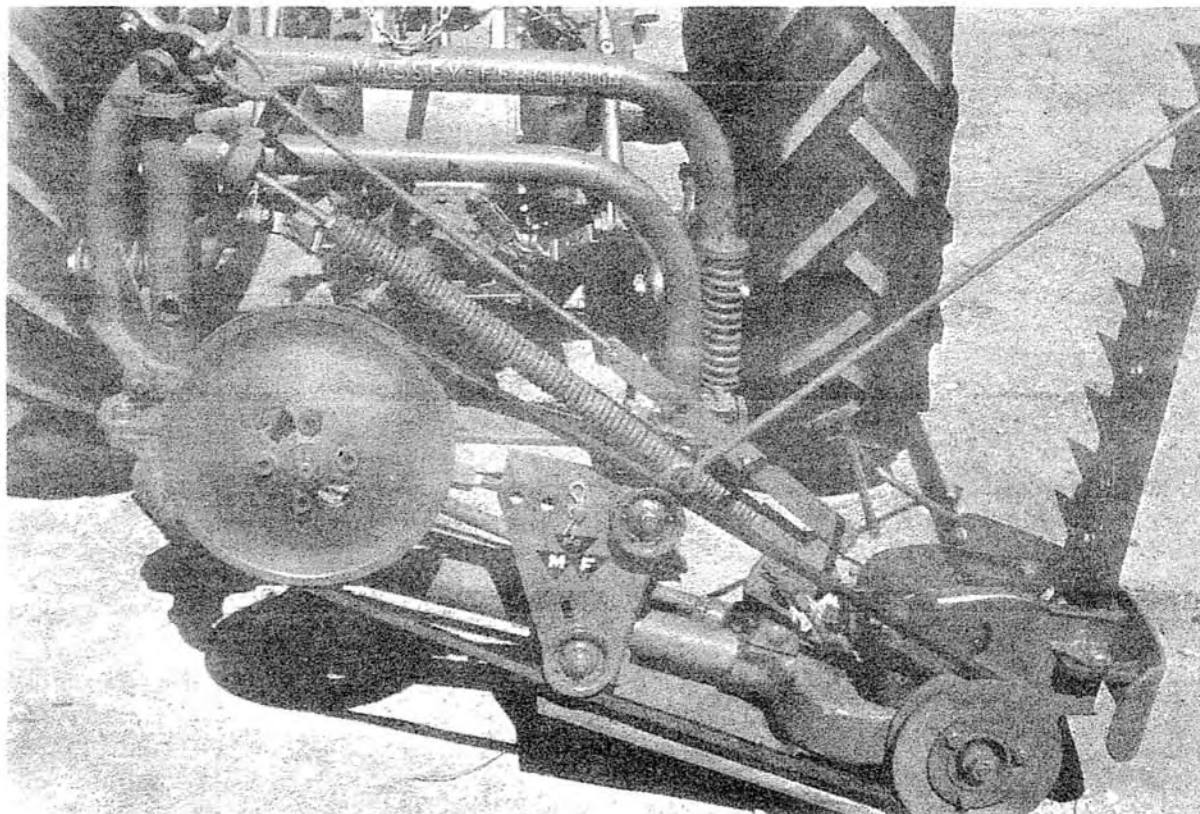

Fig. 62 - Complete Assembly
18. Install the grass rod (No. 1, Fig. 62), using the carriage head bolt, nut and lock washer provided. Insert the bolt from beneath the shoe, with the grass rod between the bolt head and the shoe.
Fig. 62 shows the belt installed and the fully assembled mower attached to a TO 35 Tractor. Before the mower is operated in the field, the following pre-operative settings should be attended to: "Belt Tension Adjustment", Page 19. "Adjusting Operating Height", Page 11. "Cutter Bar Flotation", Page 15. Further field adjustments may be necessary; these are explained under the headings "Operating Information" and "Adjustments", commencing Page 12.